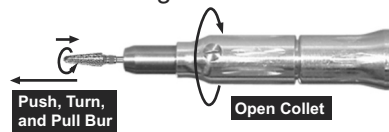

Figure 4
1. Open collet by turning grip 1/4 turn as shown in *Fig. 4* until you feel a "click". The gap between the grip and handpiece retainer will narrow when the collet is open.
1. Open collet by turning grip 1/4 turn as shown in *Fig. 4* until you feel a "click".